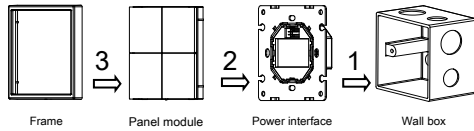

Figure 10. Installation
**Installation - See Figure 10**
Installation	Wall box (See Figure 10)